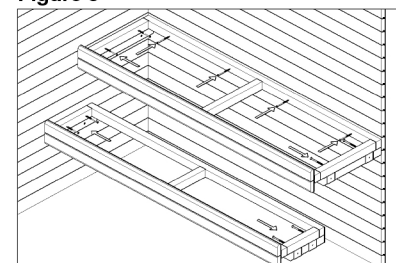

Figure 6
6. Lift the upper and lower bench onto support details. Fix the benches to the walls with all screws included in the kit. Also fix the back side of the bench frame to the wall. Use 5x100 mm screws. (Figure 6)